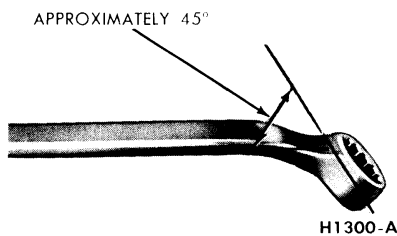

FIG. 7—Wrench for Bleeding Brake Hydraulic System
2. To bleed the secondary (rear) brake system, position a suitable 3/8 inch box wrench (Fig. 7) on the bleeder fitting on the brake wheel
4. If the rear wheel cylinders the, secondary brake system, are to be bled, position a 3/8 inch box wrench (Fig.7) on the bleeder fitting on the right rear brake wheel cylinder. Attach a bleeder tube to the bleeder fitting. **The end of the tube should fit snugly around the bleeder fitting.**